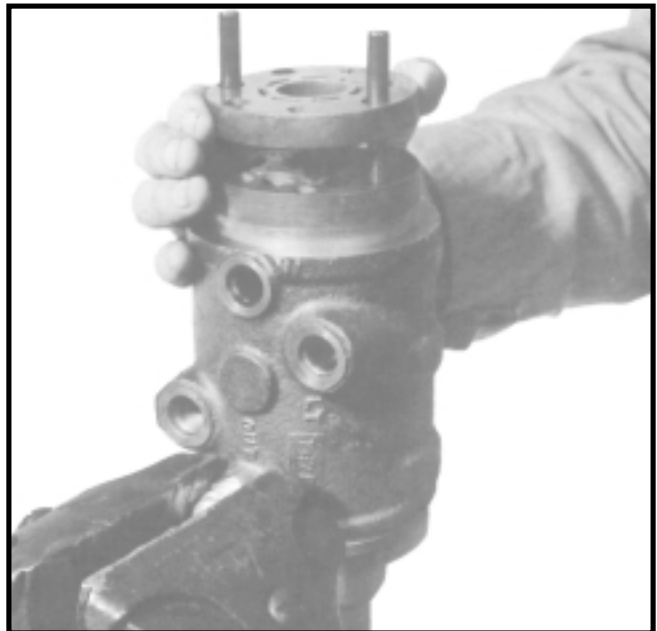

Figure HGA-25
20. Install manifold (32) over assembly posts and onto rotor set (31), make sure circular slot side of manifold is up. (See Figure HGA-25).